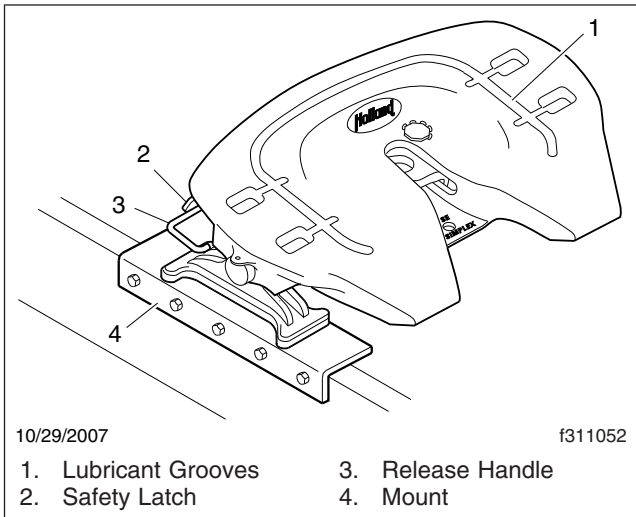

Fig. 1, Holland FWS1 Fifth Wheel
- When the wheel is locked, the safety latch must swing free and fall freely into position. See Fig. 1.